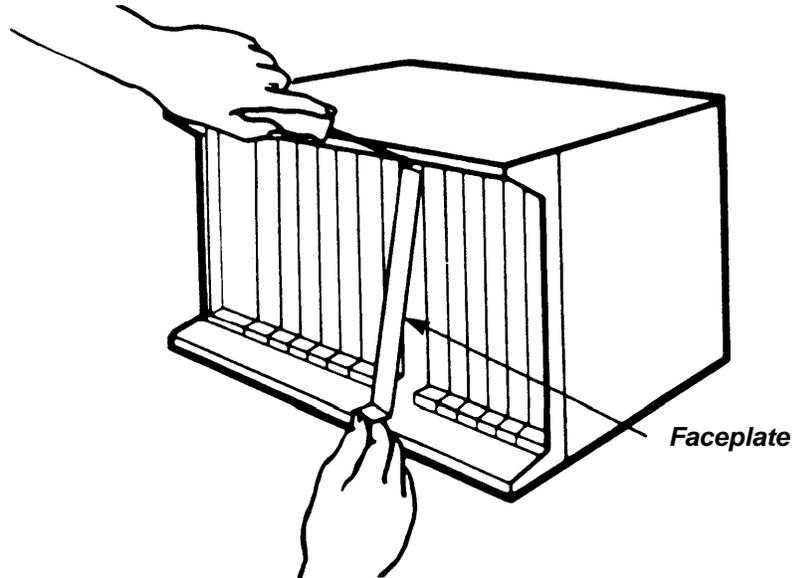

Figure 6.
2. Remove the rightmost faceplate from the cabinet by pressing down on the rib at the top of the faceplate with the tip of a screwdriver and pulling out on the faceplate (Figure 6).